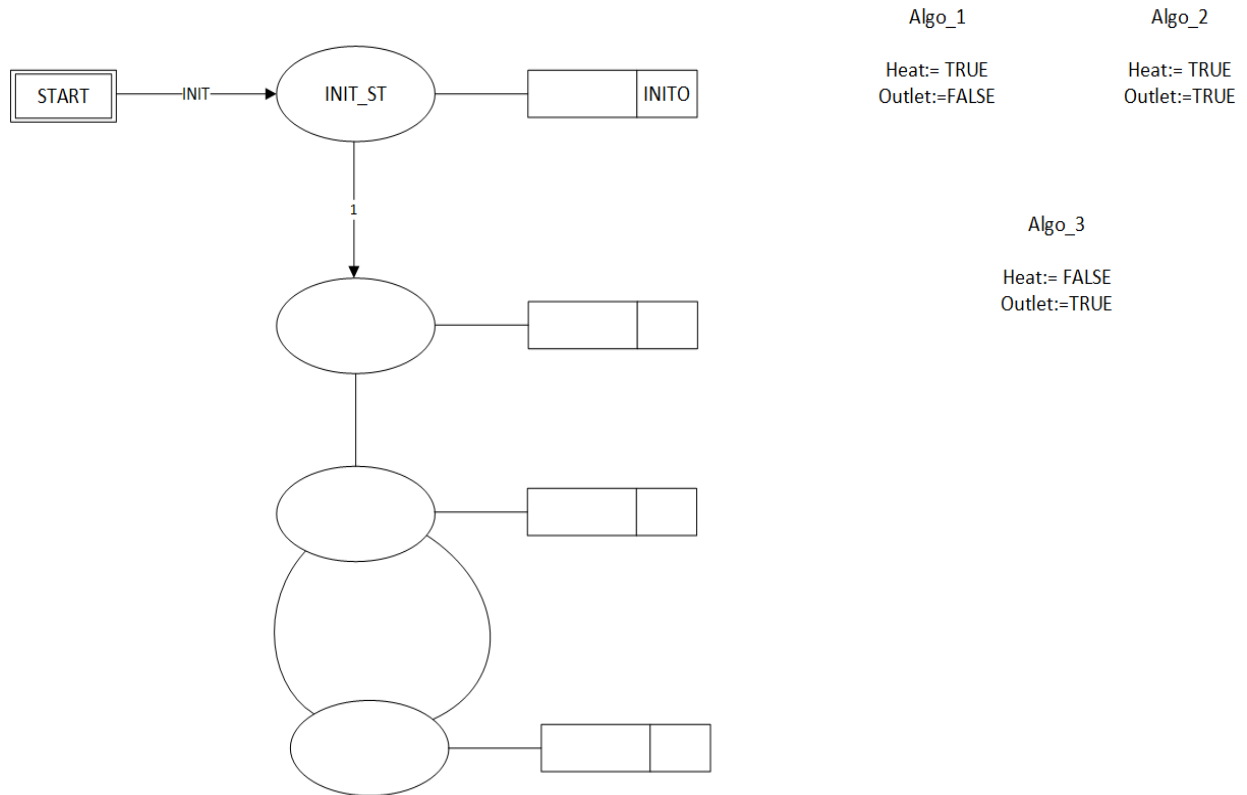

Figure 4. ECC of HeatOutletControl Function Block.
- A template of the application composed of two controller function blocks is provided in Figure 4. The template is incomplete, so you need to **connect** the input and output interfaces of the function blocks to the plant connectors ("FROM THE PLANT" and "TO THE PLANT"). **SnsEvt** corresponds to the event coming from the plant, which is generated in association to any changes of the value of any sensors, while **ControlEvt** refers to the event going to the plant. **E_MERGE** refers to a function block that merges two events. **PLCInit** generates the event which triggers the initialization of the function blocks.